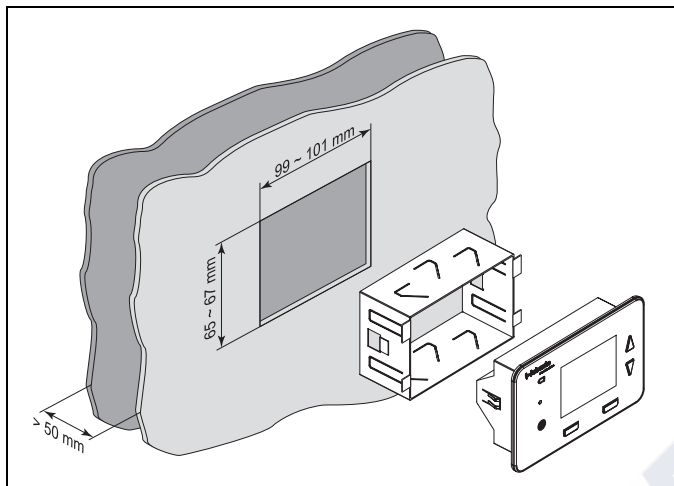

Fig. 52: Installing programmable heater control
- Drill a hole at the desired installation location (see Fig. 52).